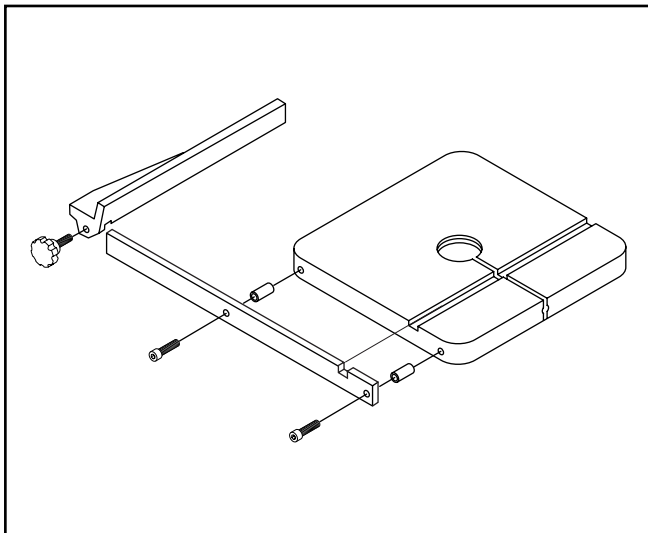

Figure 11. Fence assembly schematic.
1. Secure the fence rail to the table with the two socket head cap screws and spacers provided. Ensure that the slot in the rail lines up with the miter gauge slot in the table. **See Figure 11.**